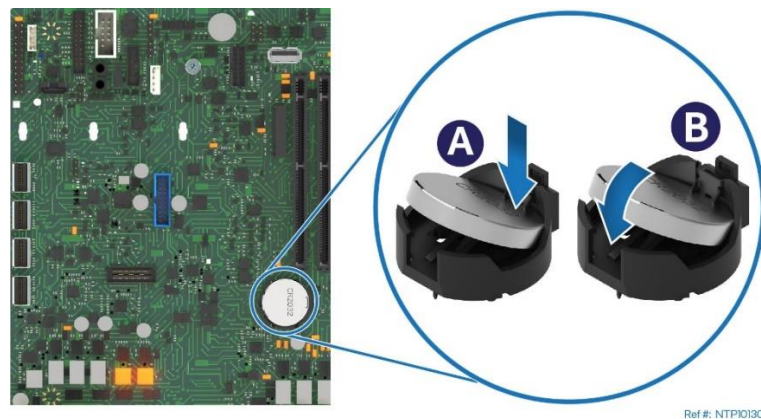

Figure 95. System Battery Installation
8. Install the battery into the battery connector socket on the server board (see Figure 95).